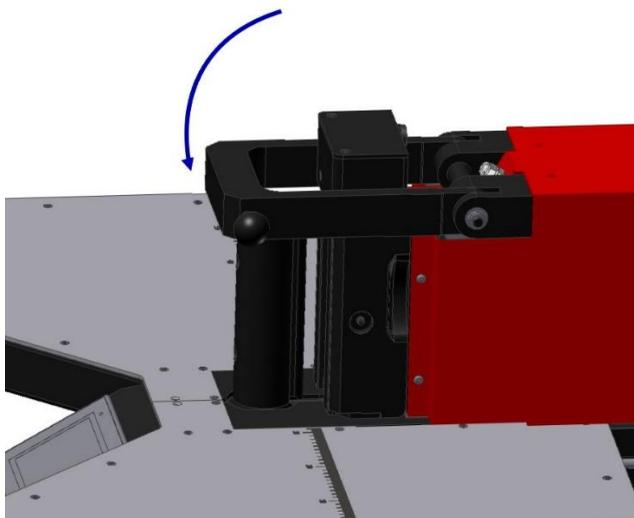

Fig. 34.
- Close the safety clamp (fig. 34).
- In case the station has just been started, carry out the operations according to item 5.1
- Equip the station with the cutting mandrel and cutting insert according to item 6.2.1.
- Close the clamp (fig. 34).